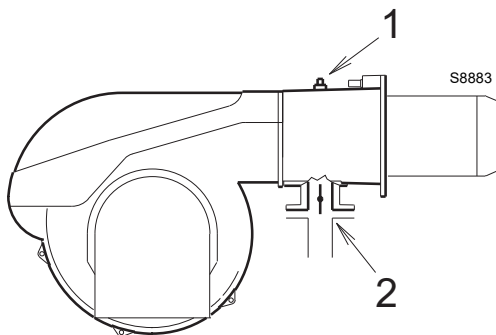

Fig. 23
Gas pressure measured at test point 1)(Fig. 23), with:
- subtract the combustion chamber pressure from the gas pressure measured at test point 1)(Fig. 23);
$$\begin{aligned} \text{Gas pressure at test point 1)(Fig. 23)} &= 30 \text{ mbar} \\ \text{Pressure in combustion chamber} &= 3 \text{ mbar} \\ 30 - 3 &= 27 \text{ mbar} \end{aligned}$$
To calculate the required gas pressure at test point 1)(Fig. 23), set the maximum output required from the burner operation:
Read, on the right, the pressure at test point 1)(Fig. 23).
pressure required at test point 1)(Fig. 23).